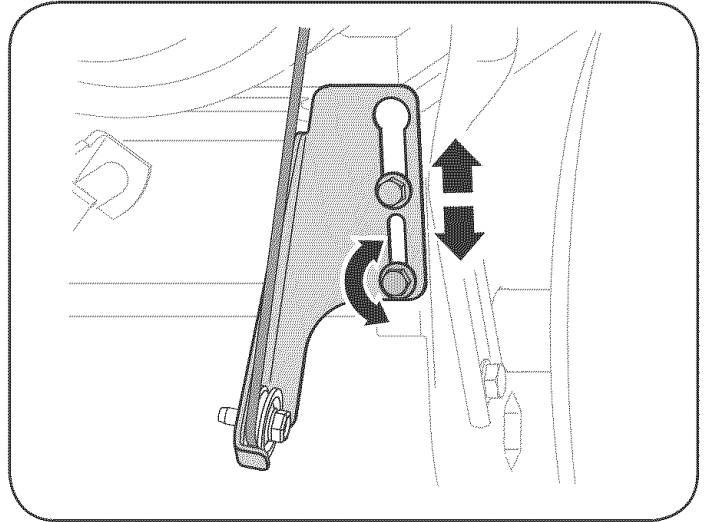

Figure 9
5. Loosen the lower hex nut on the drive cable bracket. See Figure 9.